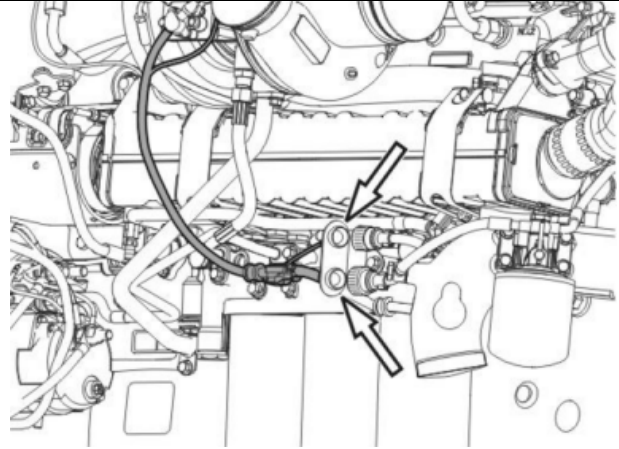

FIGURE 5
9. Disconnect the actuator assembly electrical connector at the wiring harness (FIGURE 5). Cut any tie straps as needed.